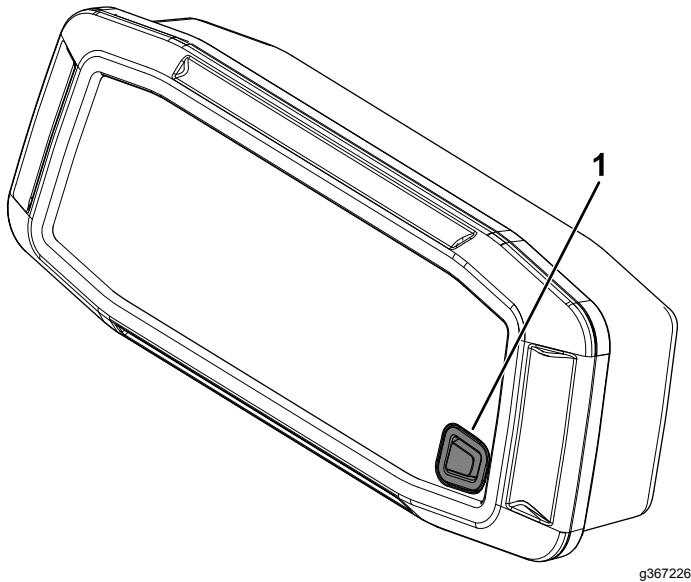

Figure 85
1. Press and hold the button (Figure 85) for at least 10 seconds.